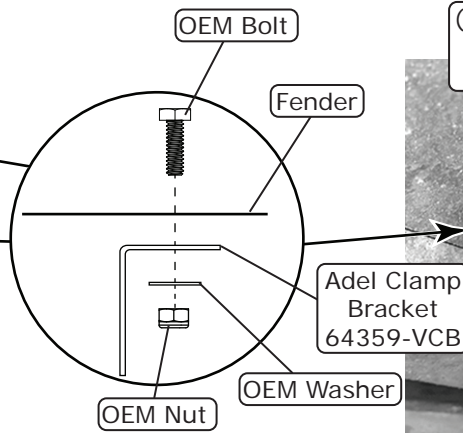

Figure 2
- 9. Locate the (2) Adel clamp brackets and install them onto the 3rd and 4th holes under the fender using OEM bolts, washers and nuts (See Photos 10, 11, 12, and Figure 2, below).
- 10. Install (2) 5/8" I.D. Adel clamps and (2) 3/4" I.D. Adel clamps using (2) 10-32 x 1/2" pan head screws and (2) 10-32 nuts with star washers (See Photos 12 and 13, below).